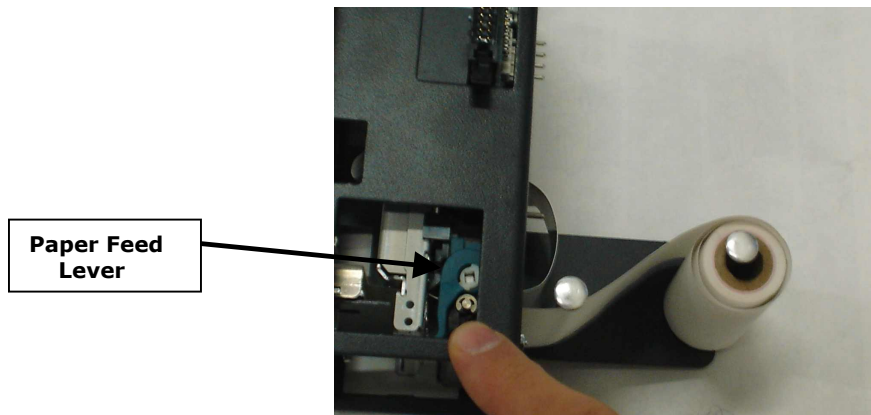

Figure P2: AC7074 Printer – Side View, with Paper
1. If there is paper remaining on the previous roll, it must be removed before proceeding. Move the "Paper Feed Lever" from the DOWN to the UP position (refer to Figure P2), and then pull out the remaining paper from the rear of the printer and discard the roll.
1. If there is paper remaining on the previous roll, it must be removed before proceeding. Move the “Paper Feed Lever” from the DOWN to the UP position (refer to Figure P2), and then pull out the remaining paper from the rear of the printer and discard the roll.